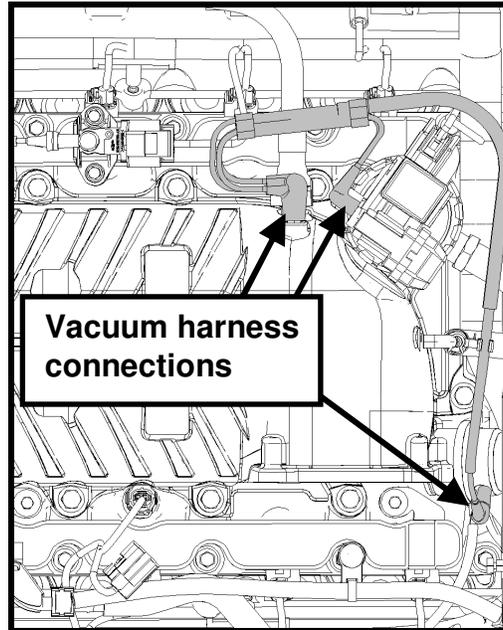

Fig. 24
- STEP 8:** Re-install the vacuum harness to the ESM, supercharger and supercharger bypass actuator (See Fig. 24). **NOTE:** Ensure the harness is properly routed and all connections are fully seated.